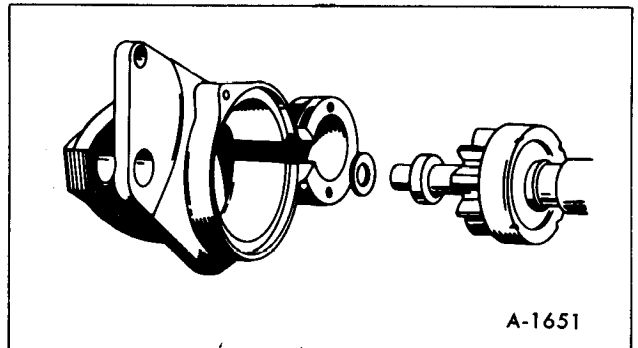

Figure 63-Installing Front Bracket
4. Place the thrust washer on the drive end of the shaft. Slide the armature with the lever into the front bracket (figure 63).